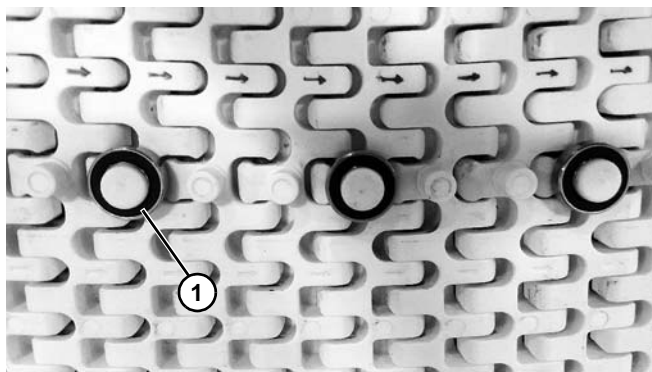

Figure 38
The bearings (**Figure 38, item 1**) on the underside of the belt must not be next to each other. A minimum of one space, and a maximum of two spaces, is required between bearings.